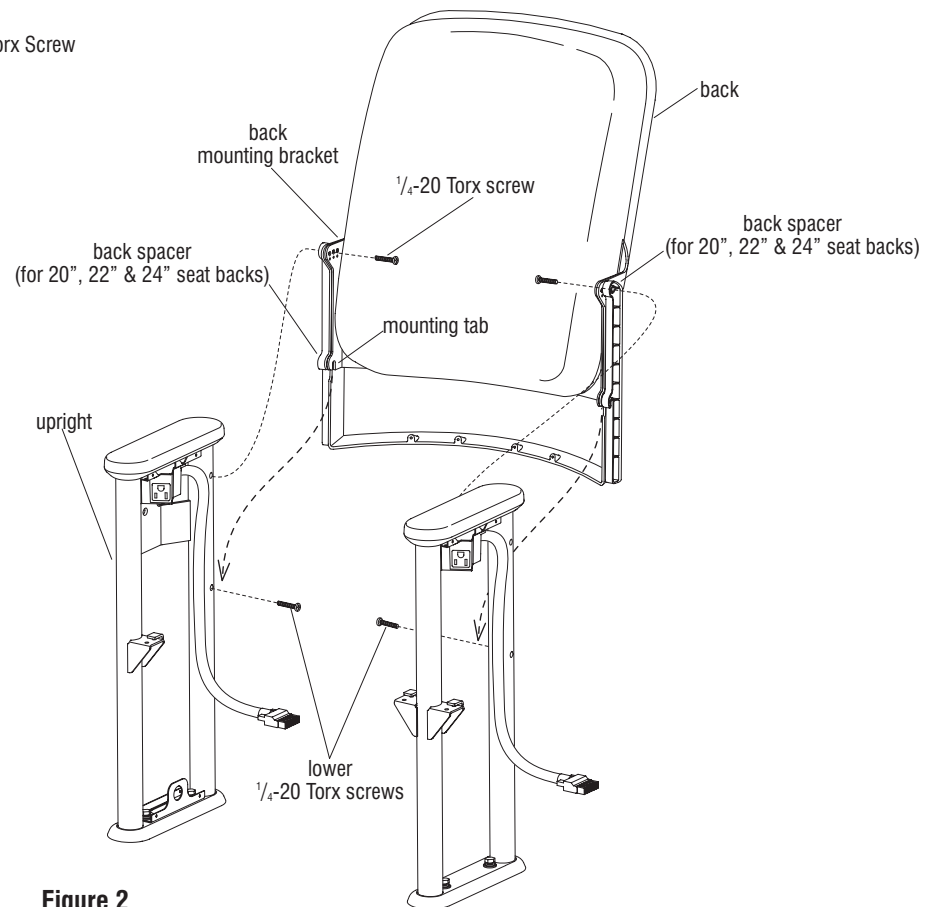

Figure 2
2. Install either the  $\frac{1}{4}$ -20 x  $\frac{3}{4}$ " or the  $\frac{1}{4}$ -20 x  $1\frac{1}{4}$ " T-30 Torx screw into the **lower** back mounting hole on both uprights. For 19", 21" and 23" units, leave a minimum of  $\frac{3}{8}$ " of threads exposed when using the  $\frac{3}{4}$ " screws; and for 20", 22" and 24" units (with spacers), leave a minimum of  $\frac{7}{8}$ " of threads exposed when using the  $1\frac{1}{4}$ " screws (Figure 2).
need additional inward pressure on the mounting brackets to squeeze between the uprights (Figure 2).
4. Install and tighten the appropriate  $\frac{1}{4}$ -20 Torx screws in the top of both sides of the unit. Tighten the screws in the lower holes (Figure 2).